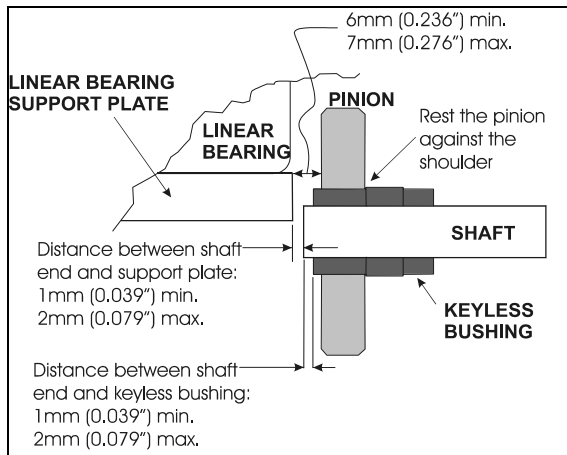

FIGURE 11: PINION AND KEYLESS BUSHING POSITIONING
3. Properly position the shaft end in relation to the linear bearing support plate (see FIGURE 11) and then tighten the locking collars to maintain the shaft in that position.
4. Position pinion and keyless bushing as shown on FIGURE 11 and tighten the keyless bushing as described in section 5.4.